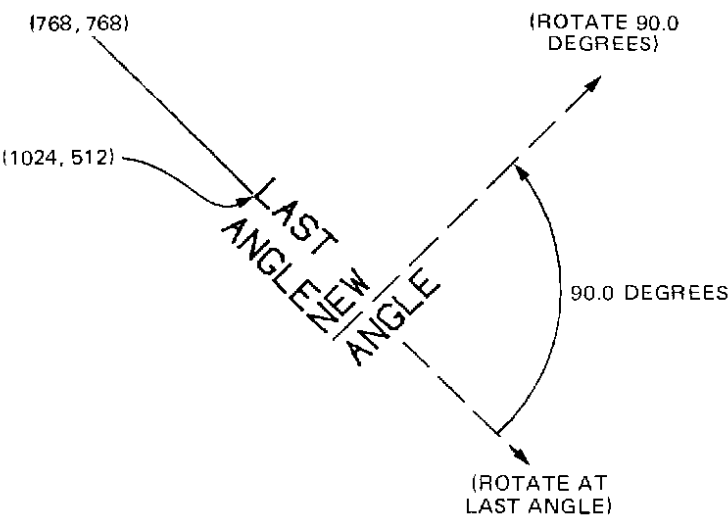

Figure 5-18. Label Rotation
**Result** (Refer to Figure 5-18)